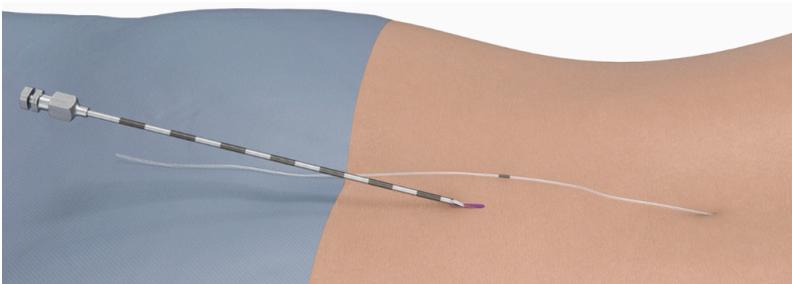

Figure 9
1. Advance the needle from the subcutaneous Receiver pocket to the electrode array entry site (see Figure 9).